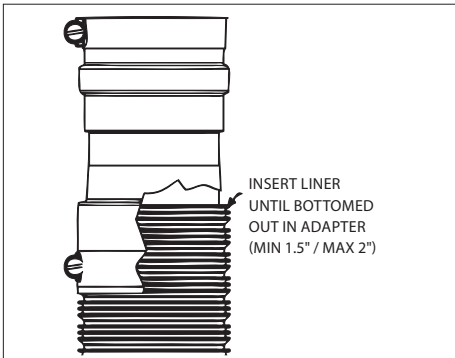

Figure 14
5. Place adapter on liner (the inner tube fits inside the liner and the outer tube fits outside the line). The adapter when properly seated will cover marks made on liner in **step 1** (**Figure 14**).